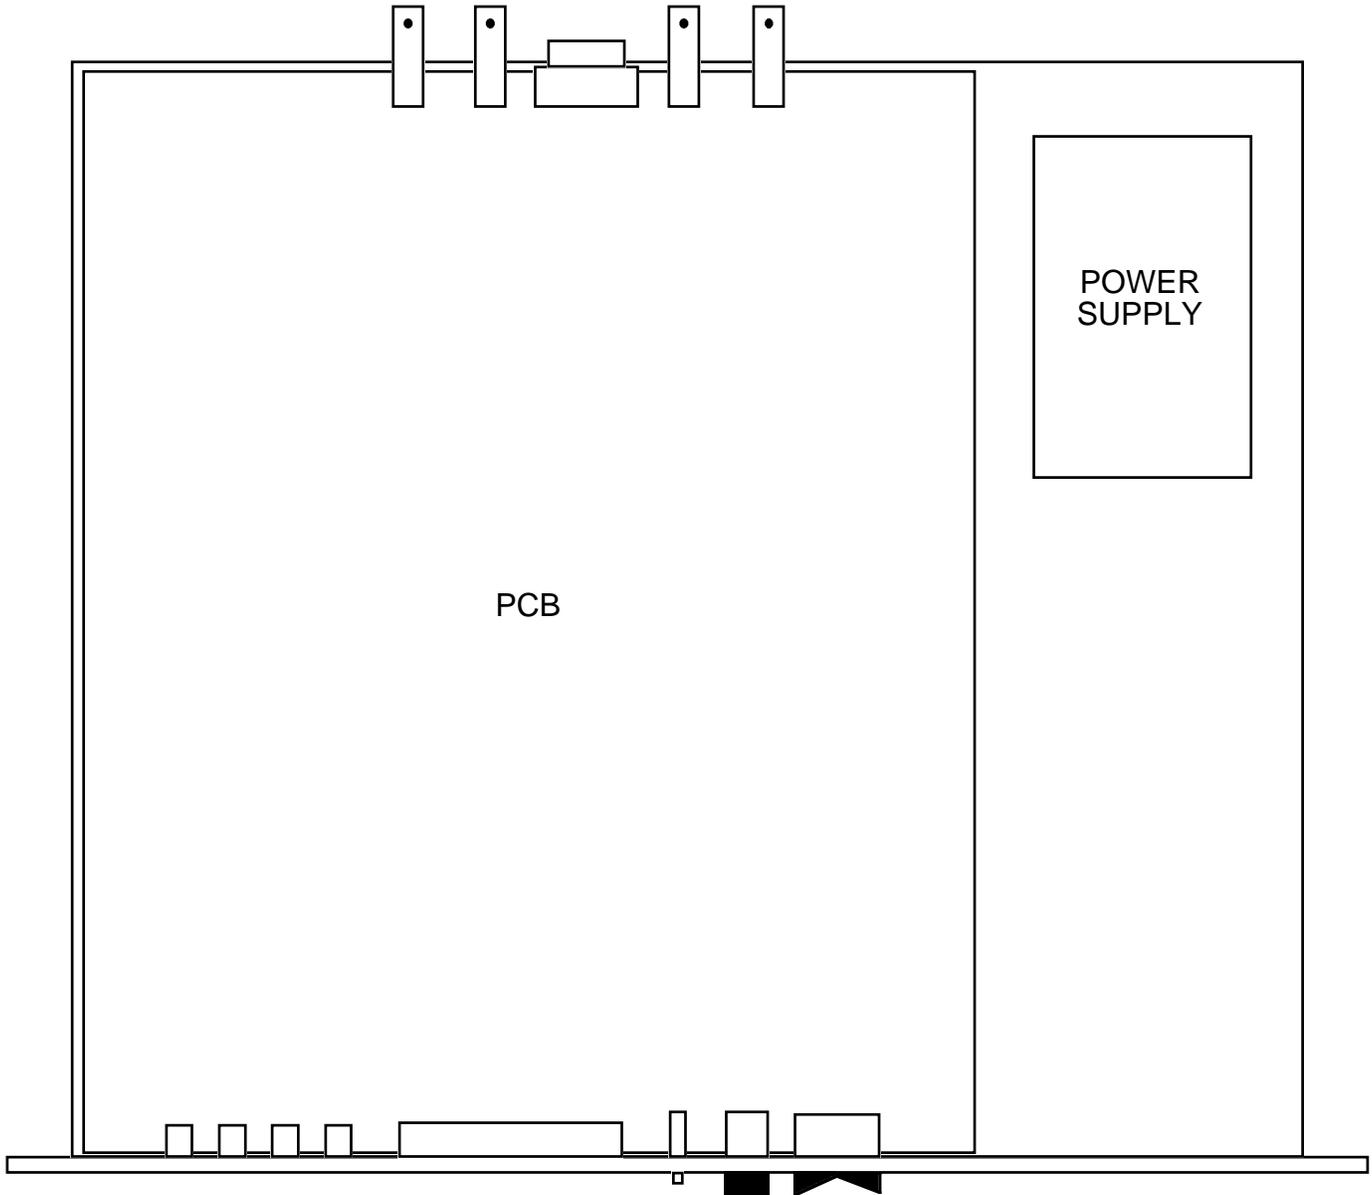

FIGURE 2.0 2083-43 Mechanical Assembly
2.1 Mechanical - The 2083-43 consists of one RF/Controller PCB housed in a 1 RU (1 3/4 inch high) by 16 inch deep chassis. A switching, ± 12 , +24, +5 VDC power supply provides power for the assemblies. The 2083-43 can be secured to a rack using the 4 holes on the front panel but must be supported by a bracket on the bottom. Figure 2.0 shows how the 2083-43 is assembled.